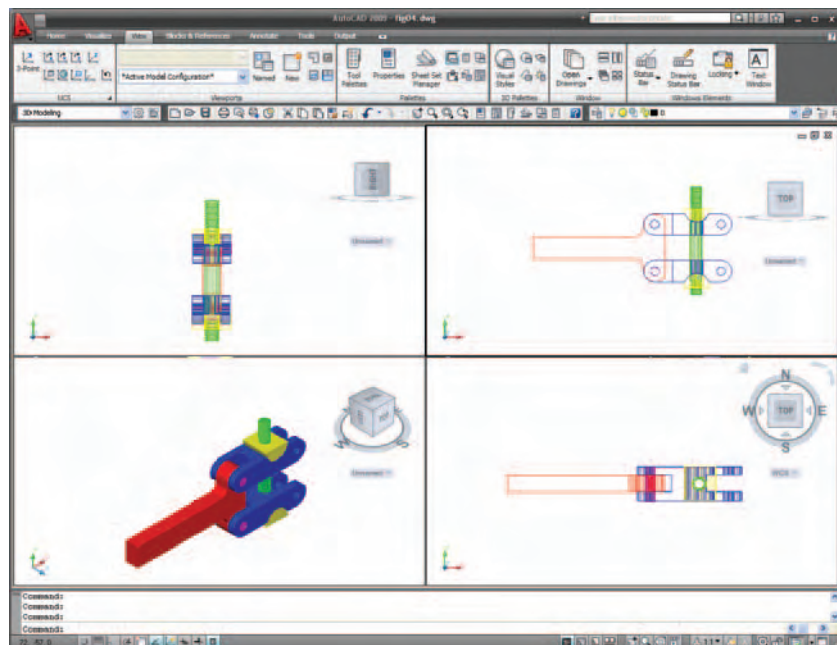

Fig. 14.4 First example – inserting 3D blocks
First example – inserting 3D blocks (Fig. 14.4)
- Using the **Move** tool, move the individual 3D models into their final places on screen and shade the **Isometric** viewport using **Conceptual** shading from the the **Home/View** panel (Fig. 14.4).